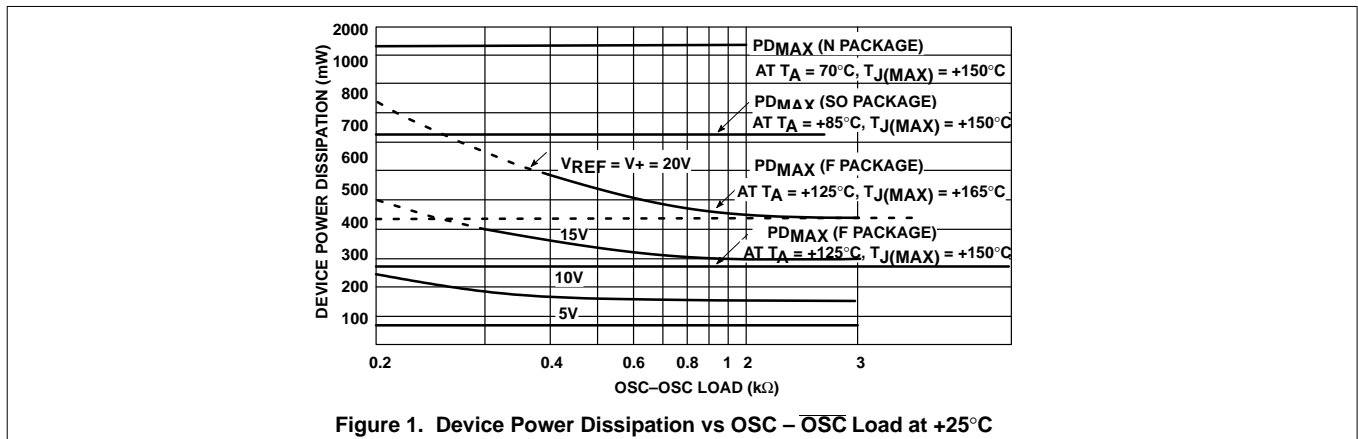

Figure 1. Device Power Dissipation vs OSC – OSC Load at +25°C
1. For derating, see typical power dissipation versus load curves (Figure 1).